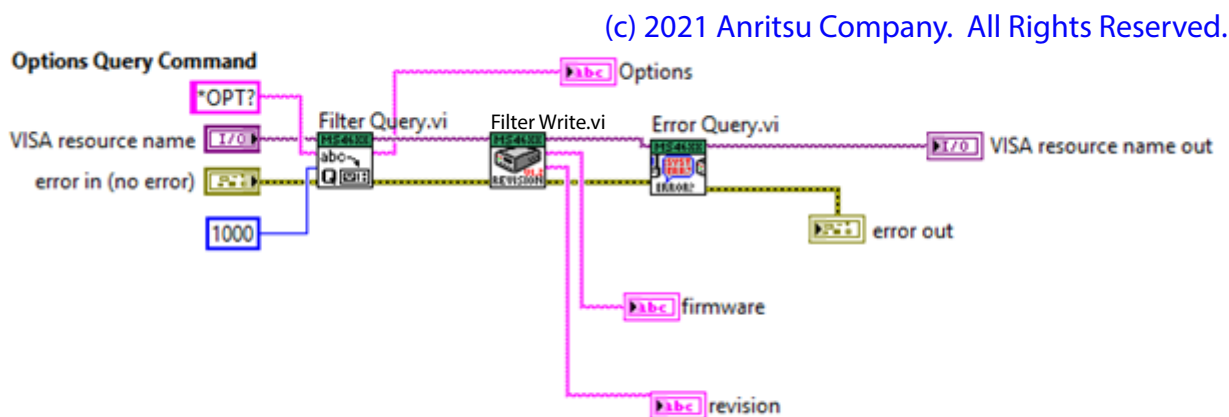

Figure D-20. Example 1 – Block Diagram – Open Session – Obtain Information
1. Use the Tools menu in LabVIEW to create the block diagram shown in Figure D-20. This example uses two VIs from the Anritsu ShockLine VNA Series driver: (1) Filter Query.vi, (2) Error Query.vi.